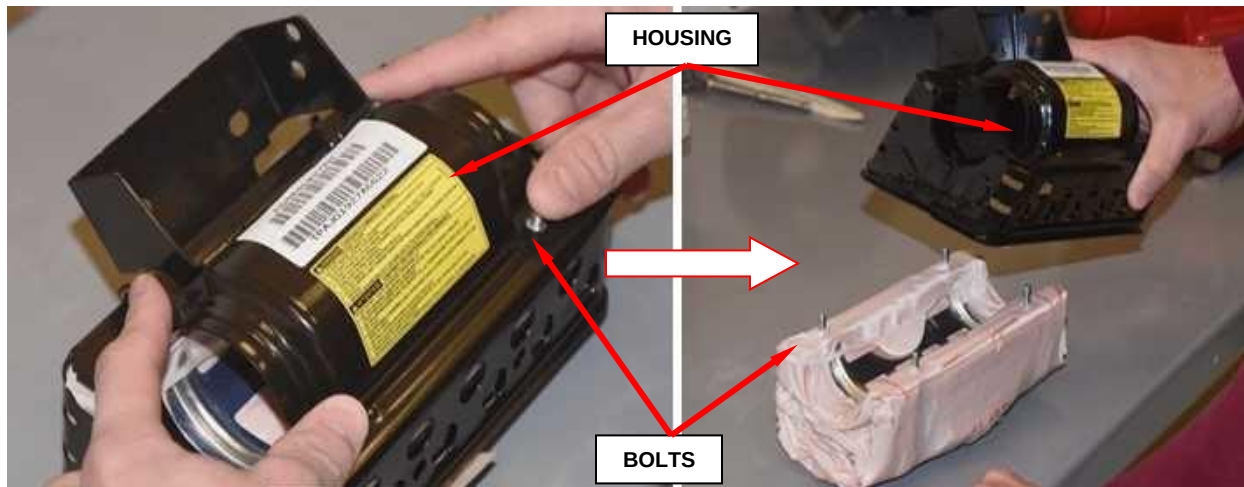

Figure 62 - Remove Airbag Cushion from Housing
- g. Remove airbag cushion from housing by applying pressure to the bolts, set cushion aside (Figure 62).